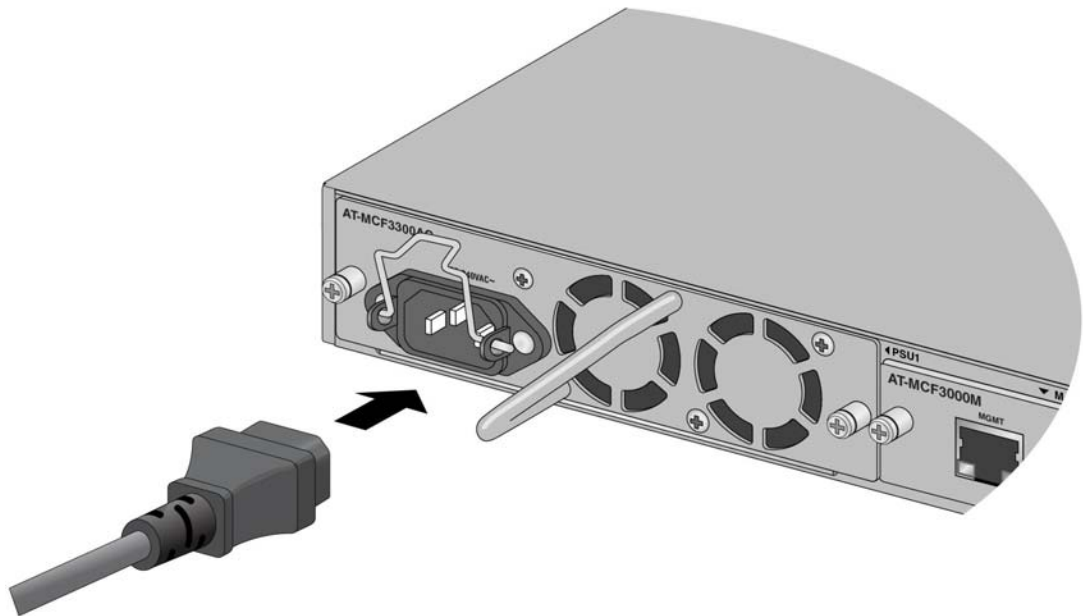

Figure 52. Connecting the AC Power Cord
2. Plug the power cord into the AC power connector on the power module. Refer to Figure 52.